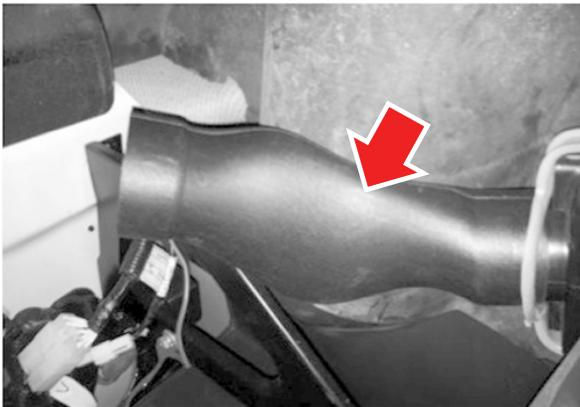

Figure 21-1
1. On the RH side, apply foam insulation (obtain locally) to the vent and then install the new outer vent duct (A6000078-001) (see Figure 21-1).